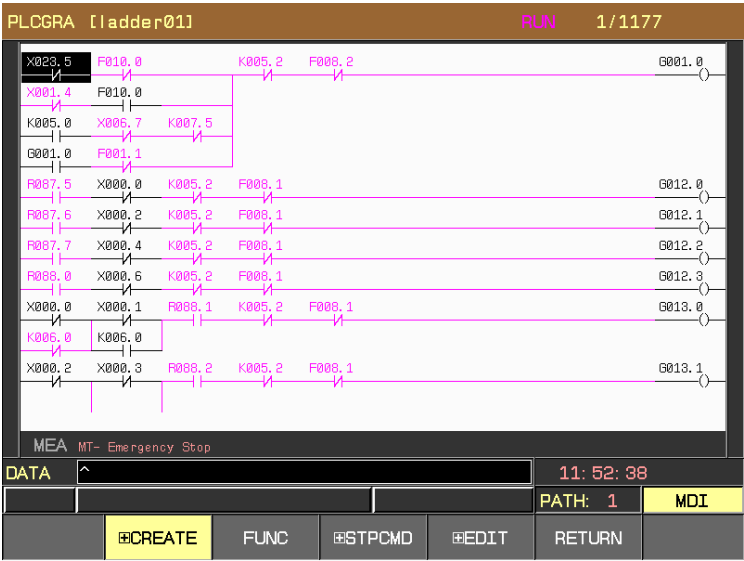
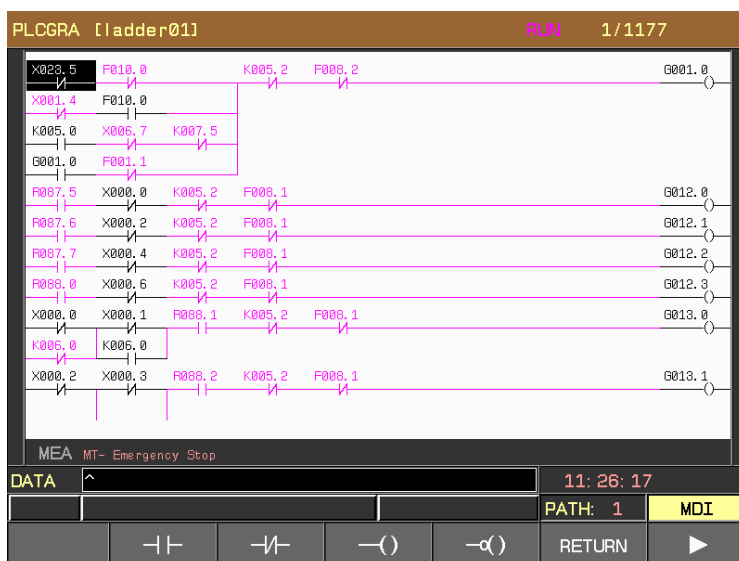
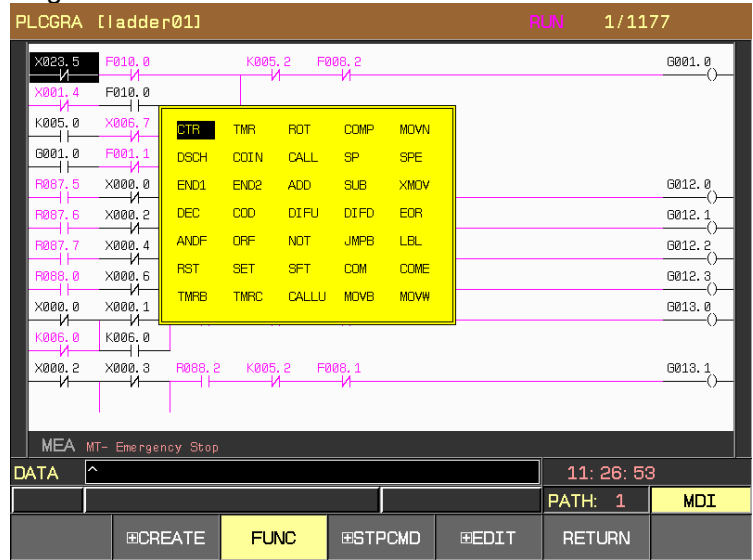

Fig. 2-1-1
Fig. 2-2-1
Fig. 2-4-1
1. Enter PLCGRA classification interface pressing [PLCGRA] twice, refer to the fig. 2-1-1: The PLCGRA interface consists of basis code, function code, command table and edit command.
Enter the basis command operation interface pressing the [Basis command] soft key in the Fig. 2-1-1. Refer to the Fig. 2-2-1.
Press the [Function command] soft key in the Fig. 2-1-1, then enter the function code operation interface, refer to the Fig. 2-4-1.
In the PLCGRA interface, as the Fig. 2-1-1. Press the [Command table] soft key again, and then enter the command table classification operation interface, refer to the Fig. 2-5-1.